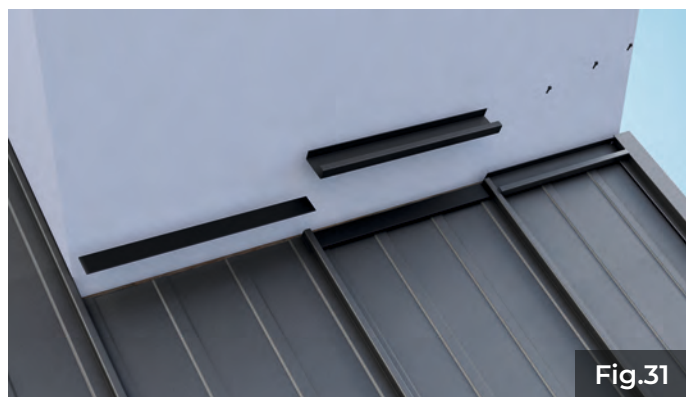

Fig.31
1. Before the fastening of the horizontal wall border, mark and cut the ridge support accessory so that it fits within the joining edges of the RETRO PANELS, see fig. 31.
2. At the contact area between the ridge support and the panel use butyl sealant tape, see fig. 31. The ridge support must be fastened to the horizontal wood lath using flat-head self-tapping screws, see fig. 31.